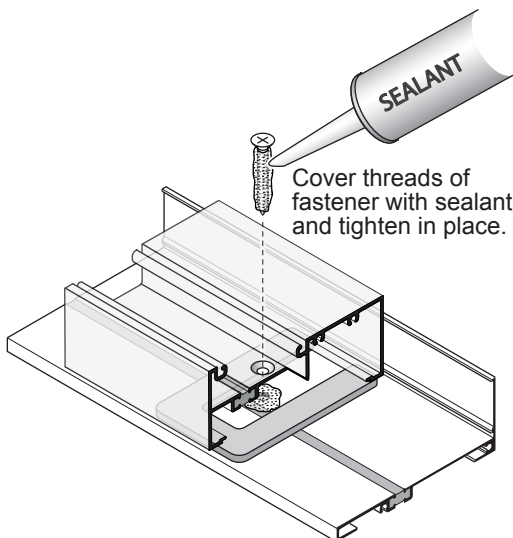

Fig. 40.3
- K. Apply sealant to threads of fastener and secure frame to sill flashing. See **Fig. 40.3**.